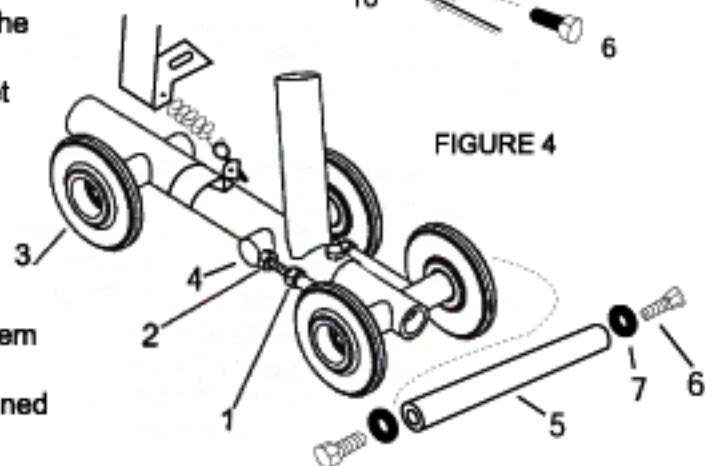

FIGURE 4
6. Refer to fig.4 : first insert the adjustment rod into the guide tube fig.4 #1 of the rear adjustment. Then insert the holding block fig.4 #4. Now you can get the track over the frame starting by the front wheels, then over the sprocket, finishing with the rear.
7. Insert the aluminum shaft fig.4 #5 into the rear wheel axle. Install the rear wheels and secure them with a washer 5/16 x 1 1/4" fig.4 #7 and fastened with a bolt 8 x 1.25 x 20 fig.4 #6. Tightened them to 19 foot pds. Using threads locker.